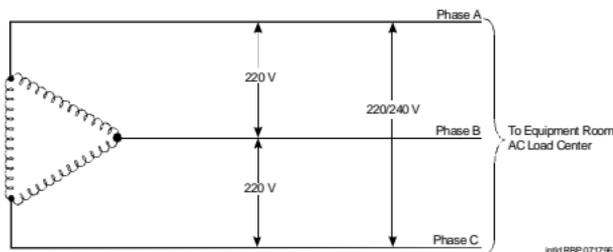

Figure 18. International Delta, 3-Wire, 220 or 240 VAC, 50 Hz Source
- International Delta, 3-wire, 220 or 240 VAC. See Figure 18. This source has 3 wires.